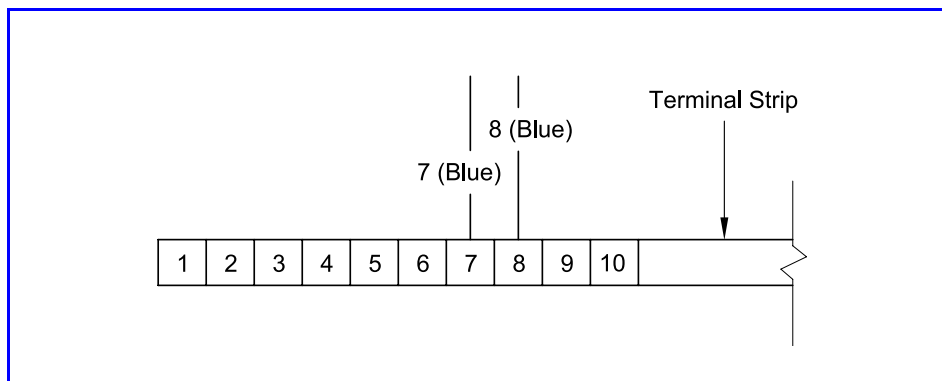

Figure 7 *Wiring Connection for Voltage Mode of Operation*
5. For conversion back to voltage mode of control, reverse steps 3 and 4. See **Figure 7**.